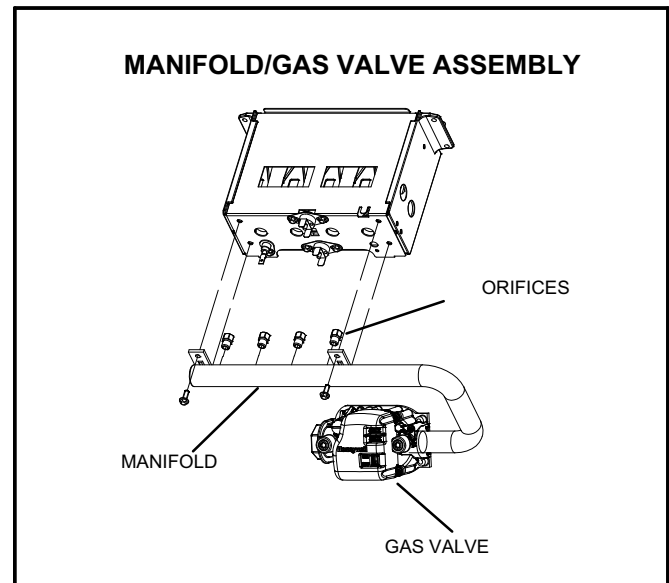

FIGURE 1
- 4 - Remove the burner box cover (if equipped) and set aside. If necessary remove the wires from the ignitor and sensor (mark wires). Remove the four manifold securing screws. Slide the manifold/gas valve assembly out of the burner box. See figure 1.
- 5 - Replace the burner orifices with the provided gas orifices. Torque to approximately 35 in-lbs. Do **not** use sealant on orifices. Figure 1 shows manifold/gas valve assemblies.